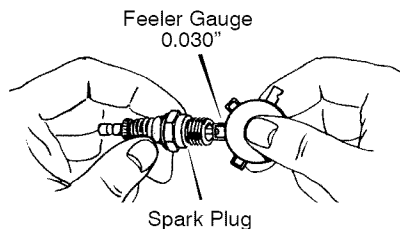

Figure 11
2. Check the **spark plug** gap with a **feeler gauge** and reset gap to 0.030" if necessary. See Figure 11.